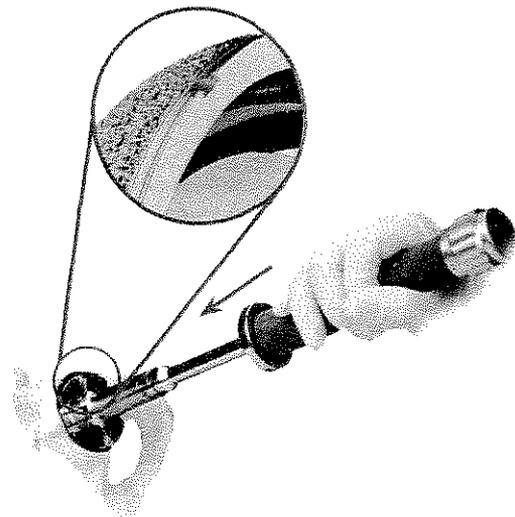

Fig. 10 Insertion of the acetabular component.
**Attention:** It is critical that the fins fully engage in the anterior and posterior walls, not only to maximize primary stability but also to reduce the risk of psoas tendon irritation anteriorly. On occasion, particularly in cases of developmental hip dysplasia, the rim of the implant will be exposed in the postero-superior quadrant of the acetabulum. This is acceptable (Fig. 10).